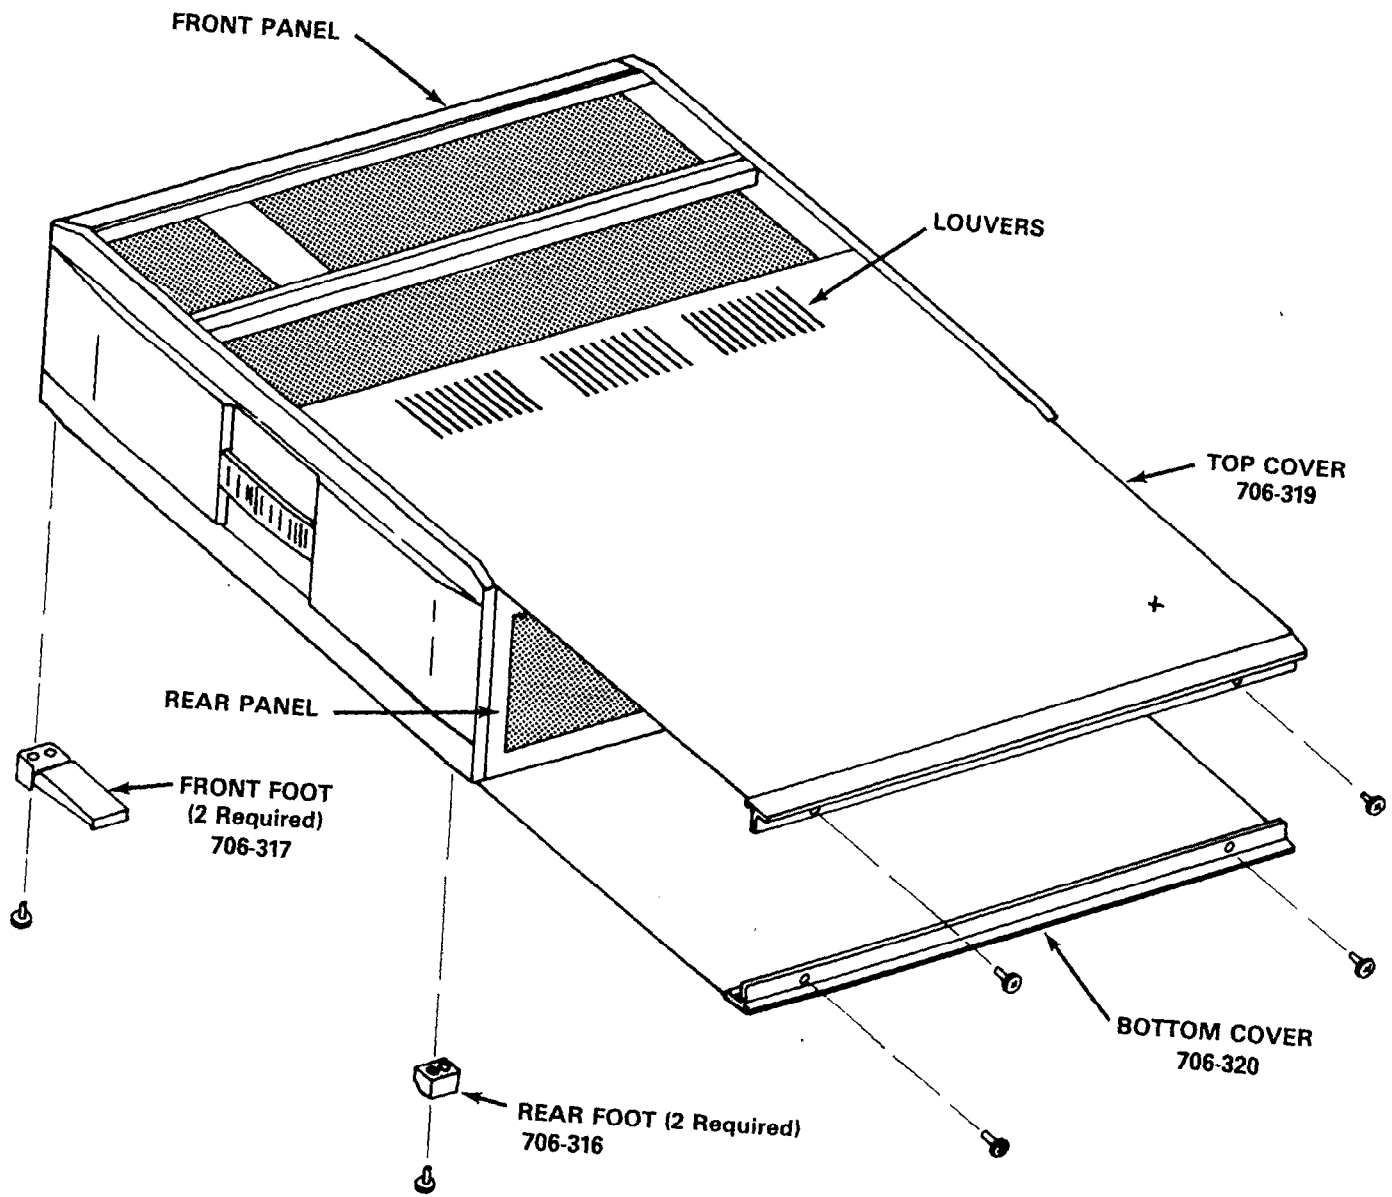

Figure 5-1. Top and Bottom Cover Removal
1. Remove the top cover. Refer to the disassembly instructions in paragraph 5.4. Refer to Figure 5-1.
If it becomes necessary to disassemble the Model 706, use the following procedure. Also, refer to Figures 5-1, 5-2 and 5-3.